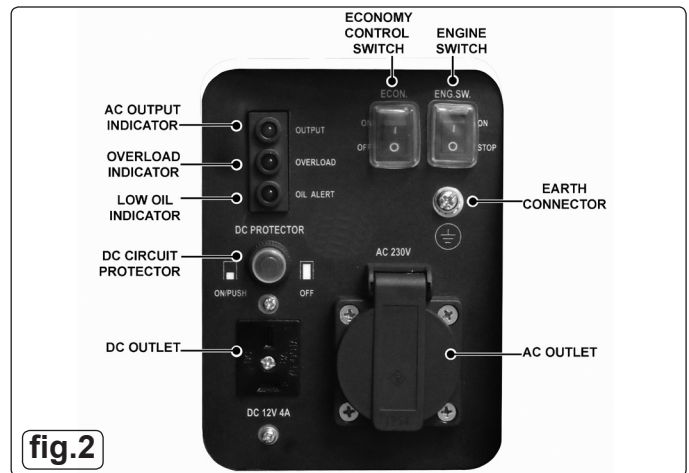

fig.2
4.2.3 Turn the engine switch to the 'ON' position (fig.2).
Note: Economy control switch (fig.2) - This should be set to ON "I" in normal use. The engine will idle when electrical appliances are not connected and will speed up when electrical appliances are connected. When high electrical loads are connected simultaneously, turn the economy control switch to the OFF "0" position. In DC applications, turn the economy control switch to the OFF "0" position
Note: To prevent electrical shock from faulty appliances, the generator should be earthed by connecting a length of heavy cable from the generator earth connector (fig.2) to a suitable earthing point.
4.3.1 Start the engine and ensure the green output indicator light illuminates (fig.2).
4.3.2 Connect the equipment to the generator AC outlet (fig.2).
4.3.3 The output indicator light will remain on during normal operation. If the generator overloads, or there is a short in the connected appliance, the red overload indicator light will illuminate (fig.2) and current to the connected appliance will be cut off.
Note: The DC socket can be used whilst the AC power is in use. If using both simultaneously, **DO NOT** exceed the total power for both AC and DC. The DC circuit has an overload protector that may trip in certain circumstances. If this happens, wait for a minute and then push in the protector reset button (fig.2) to resume operation.